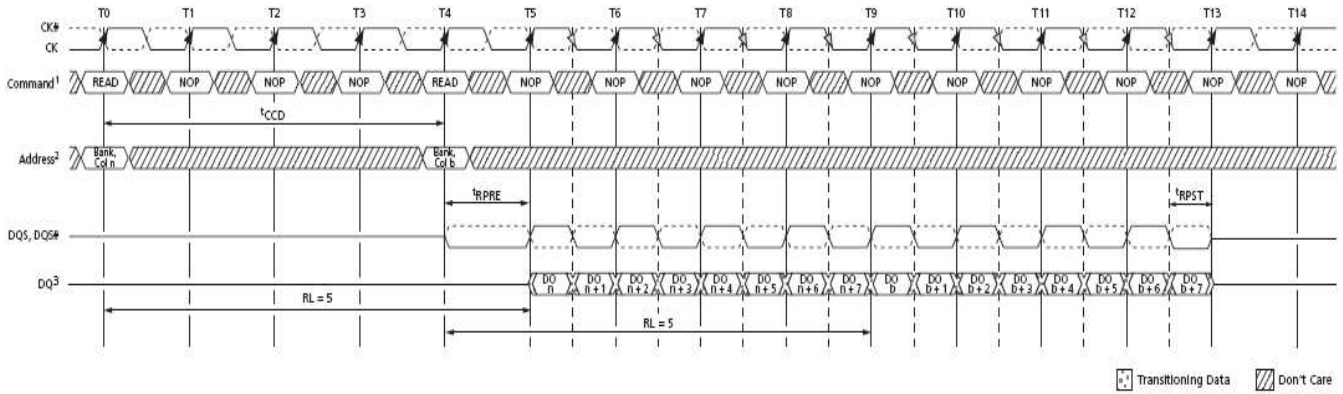
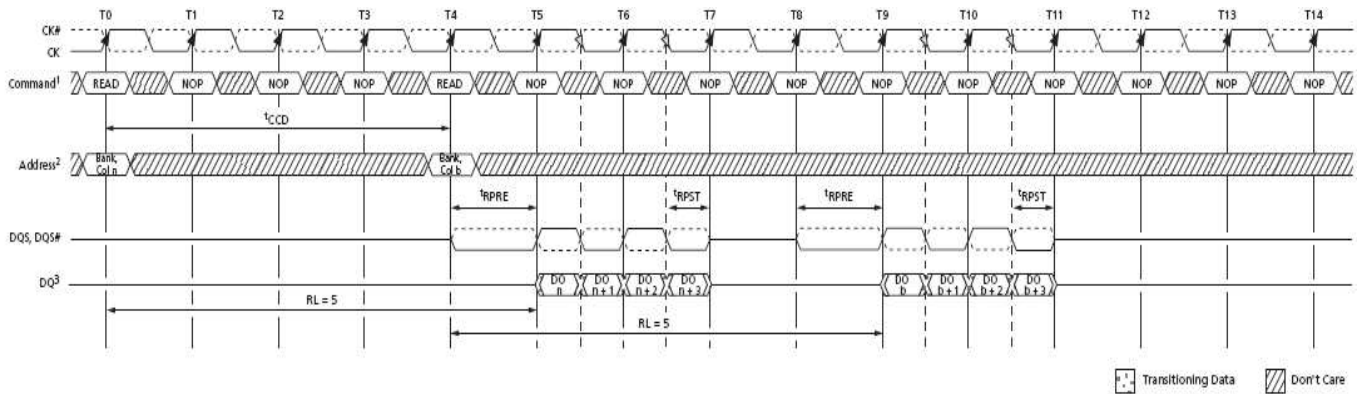
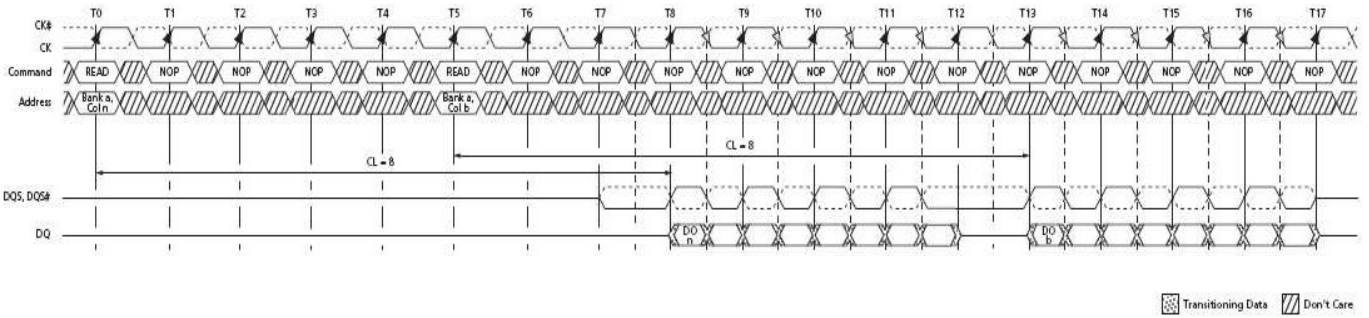

Figure 4-57: Consecutive READ Bursts (BL8)
Figure 4-58: Consecutive READ Bursts (BC4)
Figure 4-59: Nonconsecutive READ Bursts
Data from any READ burst may be concatenated with data from a subsequent READ command to provide a continuous flow of data. The first data element from the new burst follows the last element of a completed burst. The new READ command should be issued tCCD cycles after the first READ command. This is shown for BL8 in Figure 4-57. If BC4 is enabled, tCCD must still be met, which will cause a gap in the data output, as shown in Figure 4-58. Nonconsecutive READ data is reflected in Figure 4-59. DDR3(L) SDRAM does not allow interrupting or truncating any READ burst.